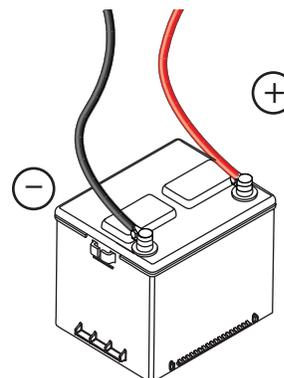

Figure 4-10. Battery Cables
- See **Figure 4-10**. Inspect the battery posts and cables for tightness and corrosion. Tighten and clean as necessary.